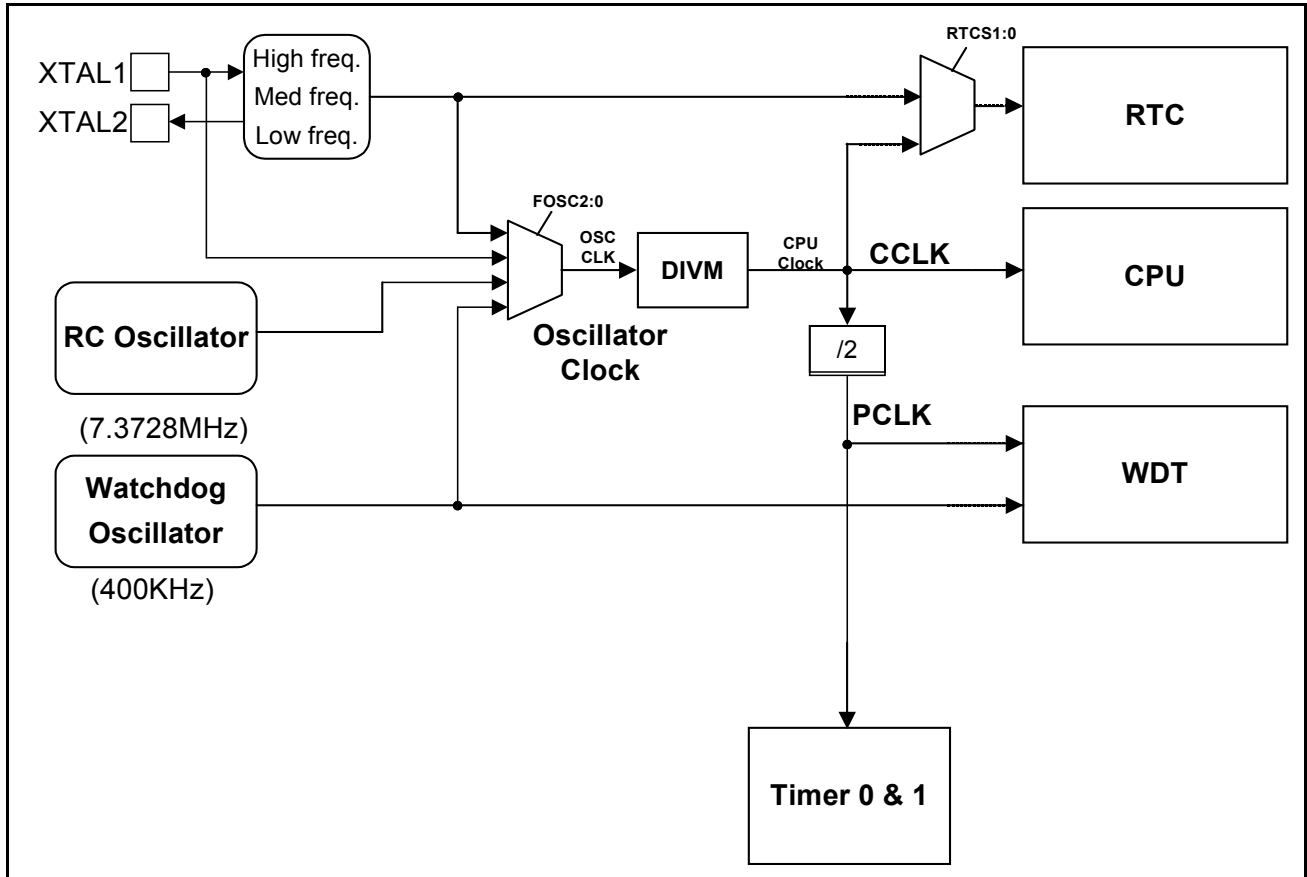
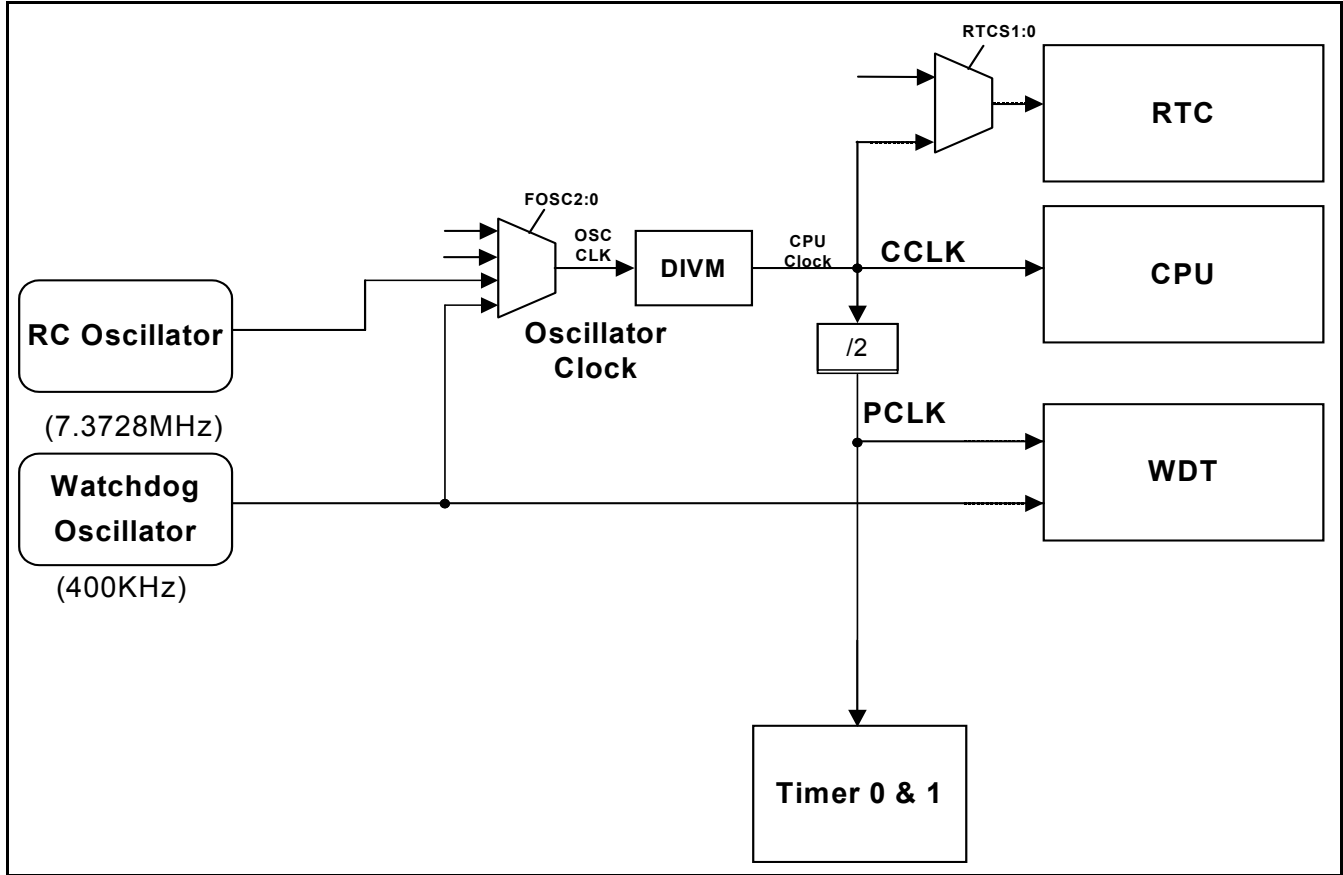
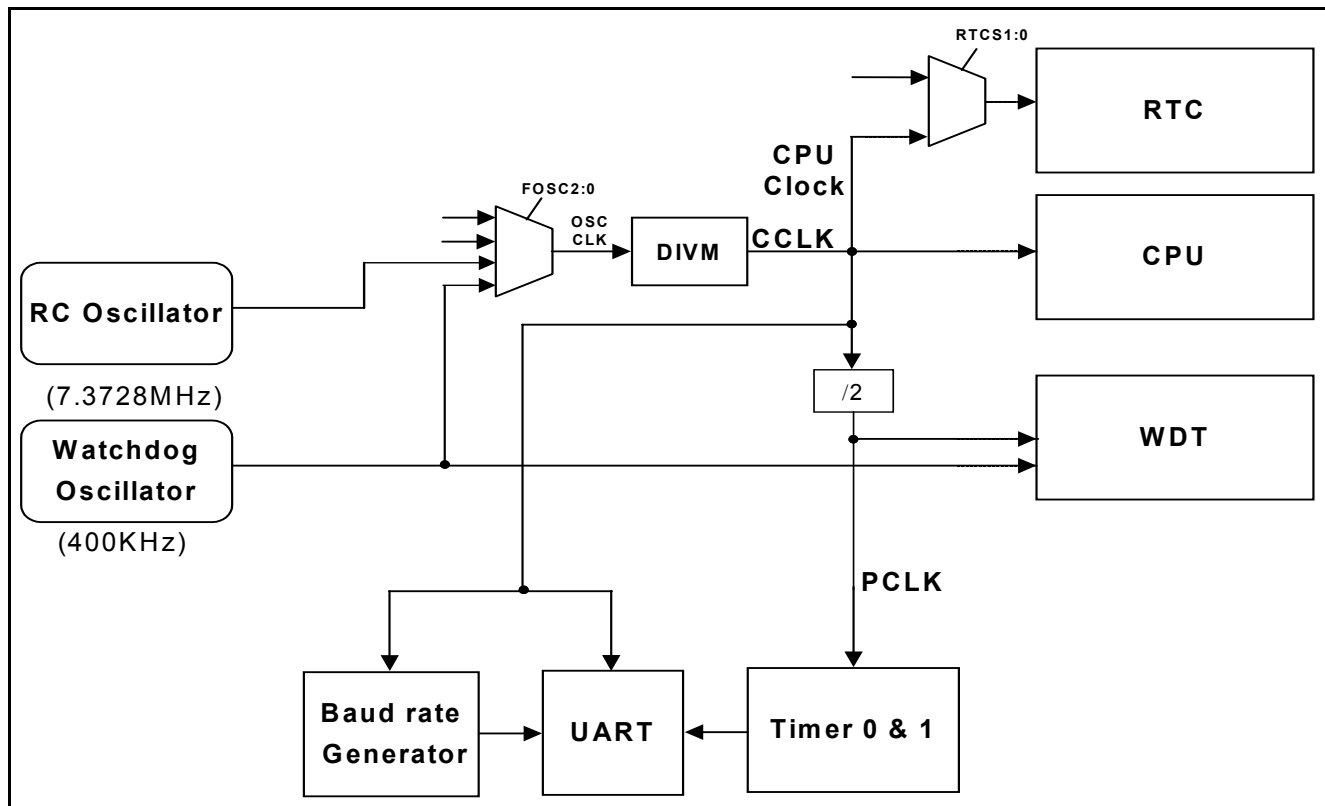

Figure 2-3: Block Diagram of Oscillator Control - P89LPC901
Figure 2-4: Block Diagram of Oscillator Control - P89LPC902
Figure 2-5: Block Diagram of Oscillator Control- P89LPC903
- OSCCLK - Input to the DIVM clock divider. OSCCLK is selected from one of the clock sources (see Figure 2-3, Figure 2-4, Figure 2-5) and can also be optionally divided to a slower frequency (see section "CPU Clock (CCLK) Modification: DIVM Register"). **Note:** f_{OSC} is defined as the OSCCLK frequency.